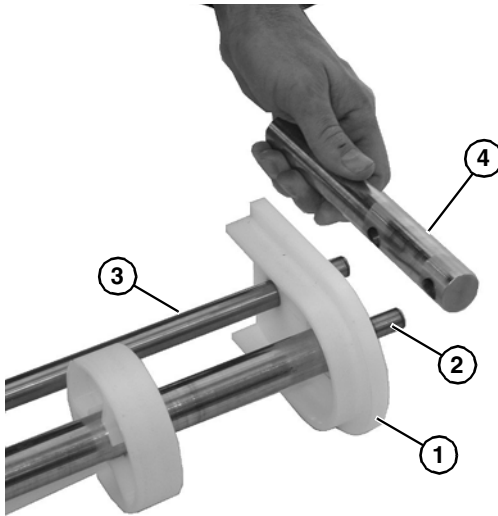

Figure 70
3. Install the pinch guard (Figure 70, item 1) to each side onto idler shaft (Figure 70, item 2) and pinch guard shaft (Figure 70, item 3).
4. Install the bearing end rod (Figure 70, item 4) onto idler shaft (Figure 70, item 2) and rod (Figure 70, item 3).